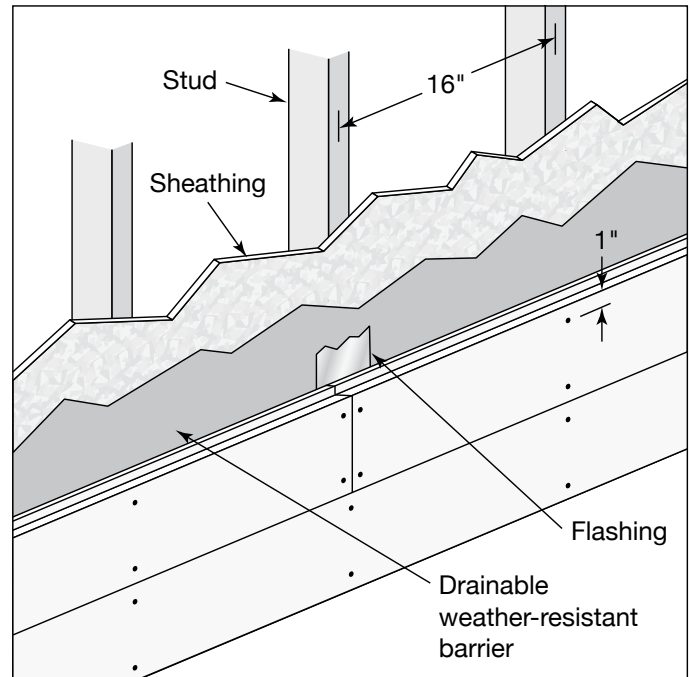

Fig. 2
- TruExterior Siding must be installed on frame-built walls with studs spaced 16 in. O.C. or, at most, 24 in. O.C. (**Fig. 2**).
- The wall may be sheathed with O.S.B. panels depending on local codes. TruExterior Siding must be fastened at the locations of the studs (**Fig. 2**).